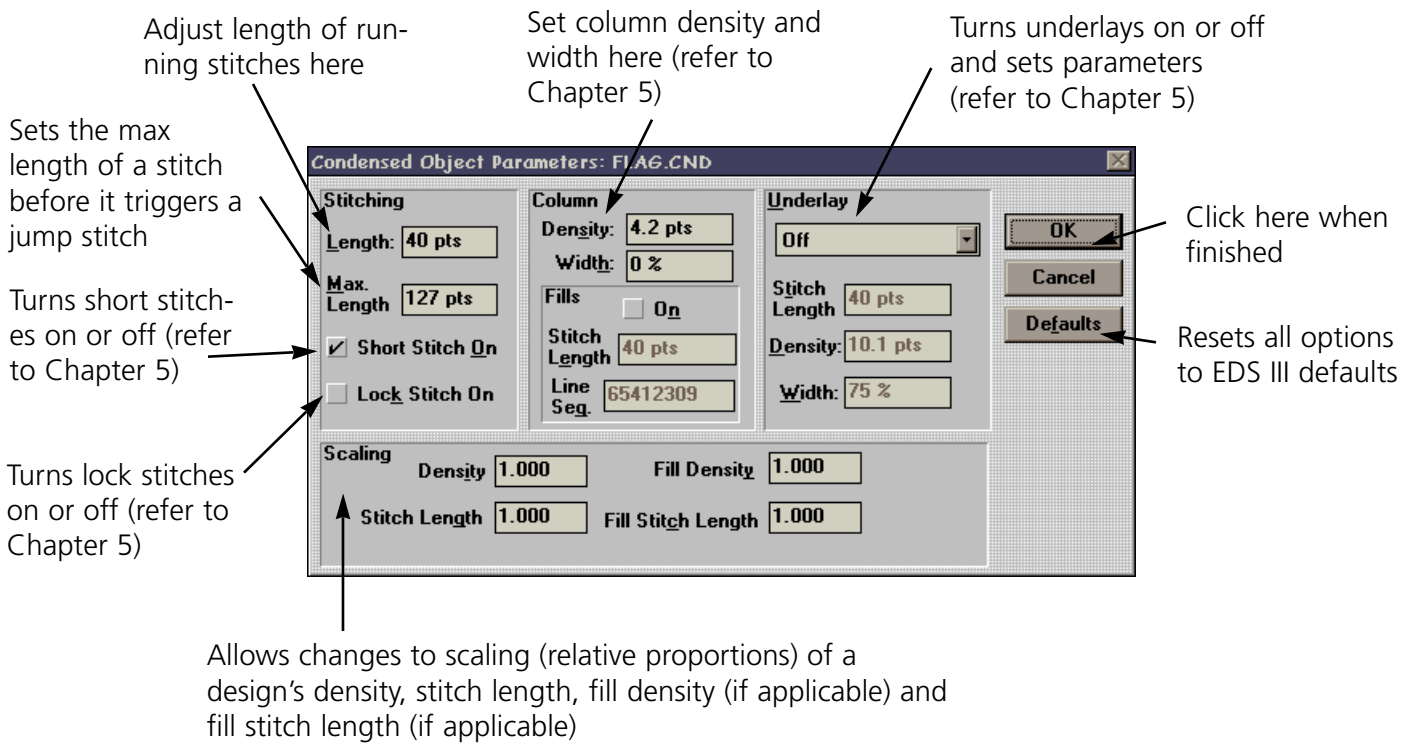

Figure 7-12
2. Click on the object. A box appears around the object and the Adjust tool  becomes highlighted. Click on the Adjust tool to display the Adjust dialog box (Figure 7-12).